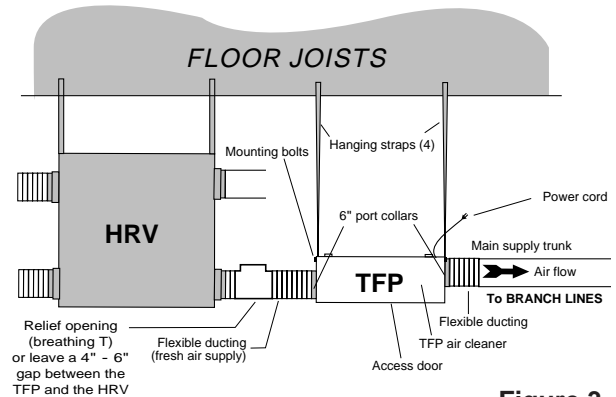

Figure 3
The TFP should be located in the main trunk of the fresh air to house line, after the Heat Recovery Ventilator (HRV) and before any branch lines. (Fig. 3)
1. Locate mounting bolts (4) on side of TFP cabinet for vertical hanging (Fig. 3) and remove.
1. Install (2) 6" oval port collars (provided) on TFP cabinet with (8) 8/32" X 3/8" sheet metal screws provided (Fig. 3).
4. A short piece (1-2 foot) of flexible ducting should be used on both sides of the TFP (Fig. 3). This will reduce vibration and noise transfer if present.